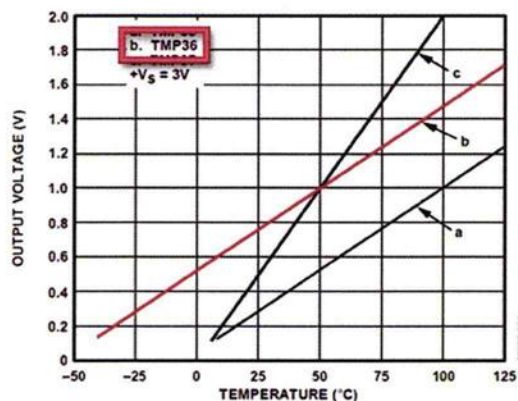

Figure 1: Relationship between output voltage and temperature for the TMP36. Voltage at 0 degrees Celsius is 0.5V.
- When you test the system, your development board reports a value of 751. What does that mean for the output voltage of the sensor? (4)
- What temperature does this represent, considering the relationship provided in Figure 1? (4)
- According to its datasheet, the TMP36 sensor has an accuracy of $\pm 2^\circ\text{C}$. Is the quantization error due to the ADC's resolution smaller or larger than this? (4)